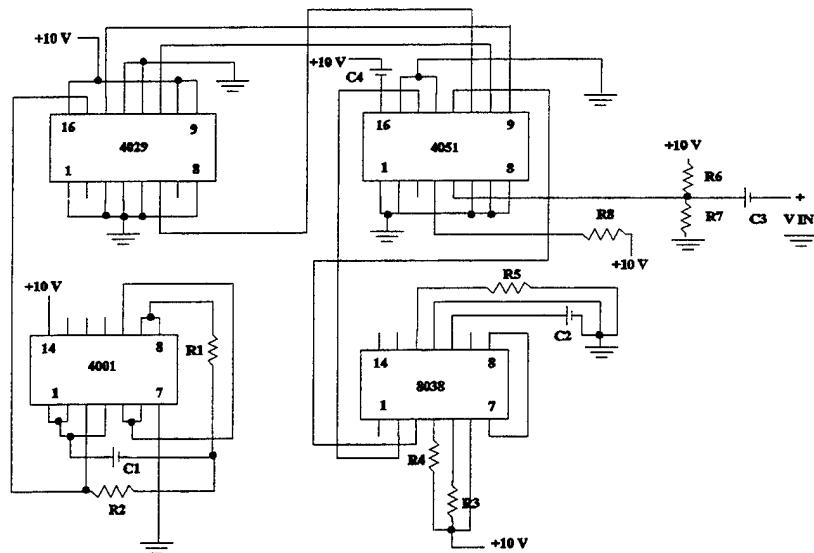

Figure 2
a) Construct the TDM circuit of Figure 2. The CD4051 multiplexor in this circuit provides the commutator function. The commutator combines four signals into a TDM signal. The TDM inputs are four signals: triangle wave at pin 14, two sine waves at pins 12 and 5, and a DC voltage at pin 4. Apply a 5 Vpp, 30 Hz sine wave to Vin. **Q:** Using